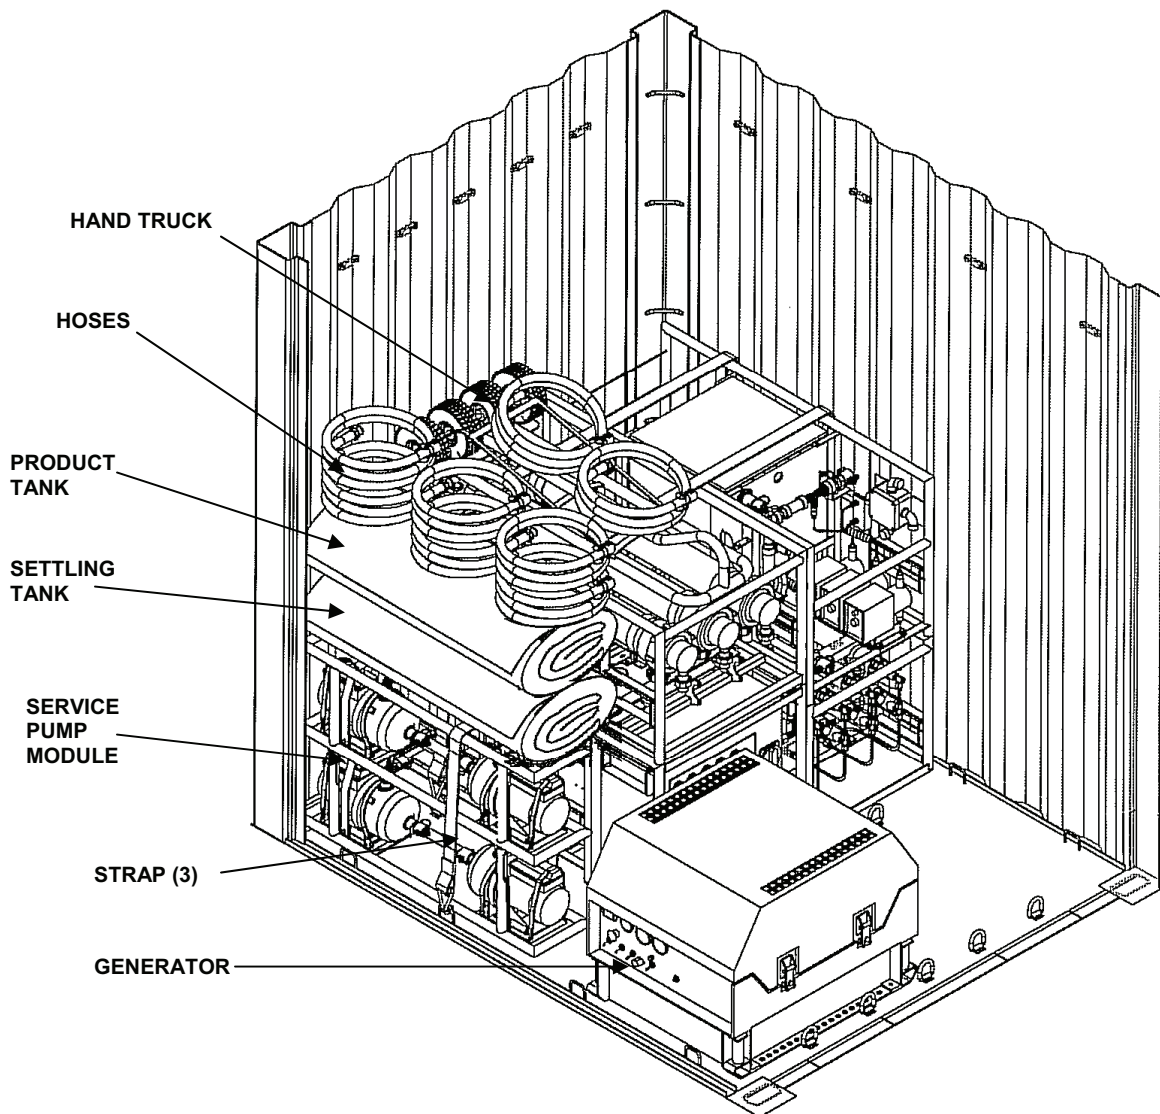

Figure 2. Loading TRICON (Second Phase).
12. Position service pump skids on the left side of the TRICON between the left wall and the other stacked modules. Secure the two halves with pins. Secure the module with strap (3). See Figure 2.
13. Place the settling tank on top of the service pump skid. See Figure 2.